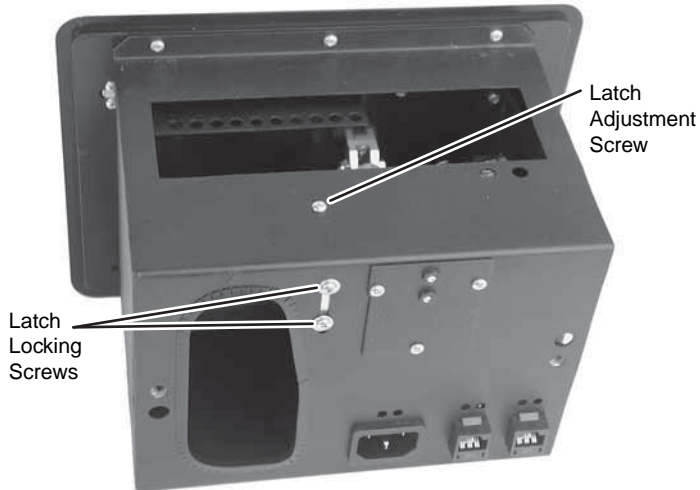

Figure 3-8 — Adjust the top surface level
3. Slightly loosen the two latch locking screws (figure 3-8) on the underside of the surface mount enclosure. These screws lock the latch in place once it is adjusted.